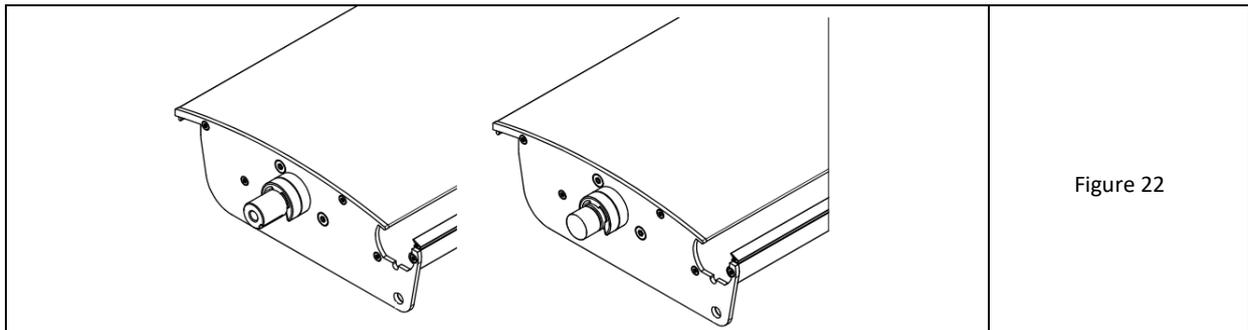

Figure 22
2. There are 2 different types of feather pins on the drive cap side (Figure 22):